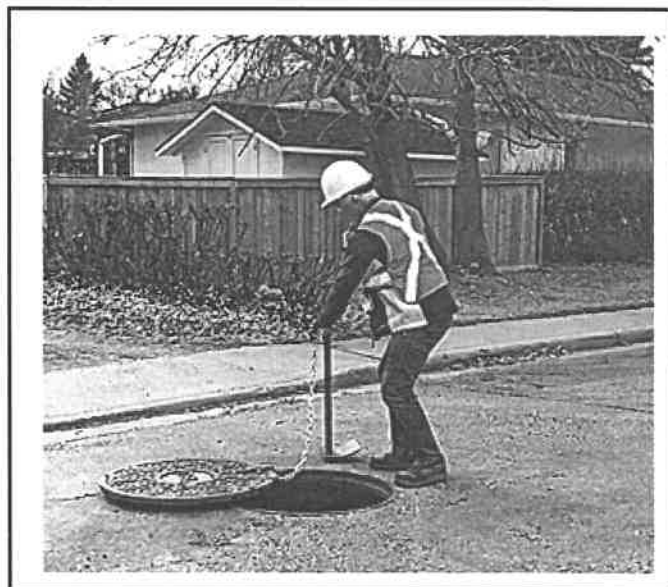

FIGURE 3.2
- 3.2 FIGURE 3.2 below is a picture of a worker who is removing a manhole cover.